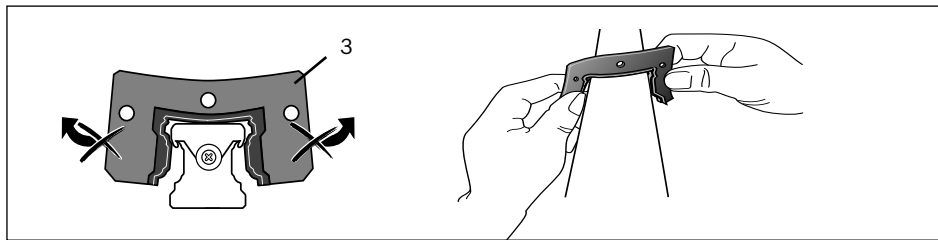

Fig. 22: Mounting the new end seal
1. Remove any cover strip protection (5)
2. Remove the two fixing screws (1) on the scanner.
3. Remove the reinforcing plate (2) and the defective seal (3).
4. Replace the reinforcing plate (4) and center it on the guide rail.
5. When mounting the new seal (3) over the rail head, do not bend it open. Instead, use both hands to twist it and carefully slip it over the guide rail or thread it on over the rail end (as shown in Fig. 22).